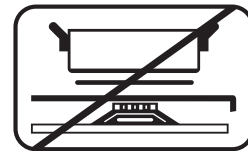

Fig.1
- Do not place anything, e.g. flame tamer, asbestos mat, between pan and pan support as serious damage to the appliance may result.(Fig 1)